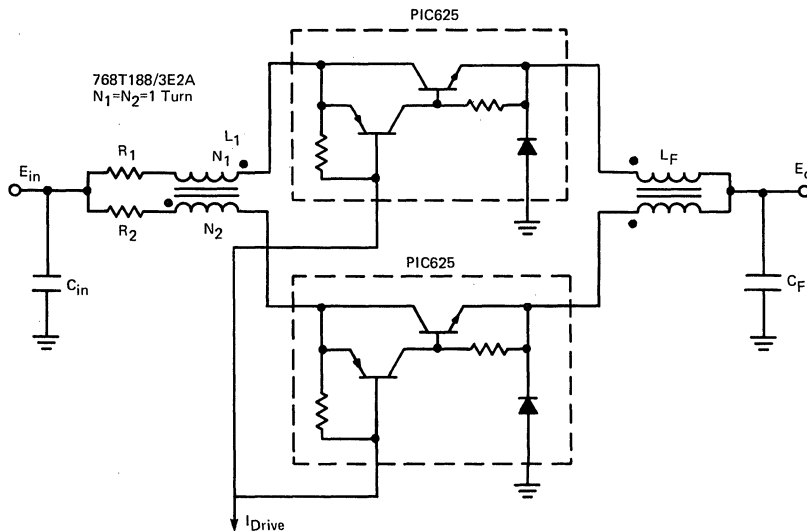
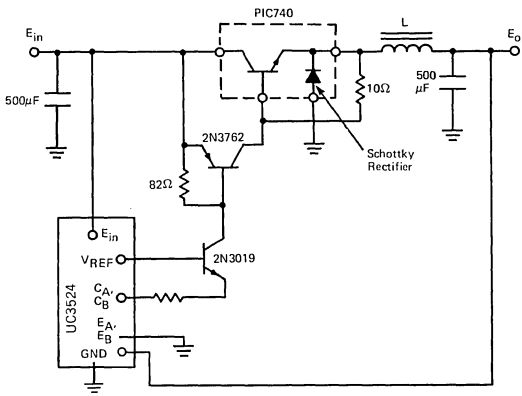

Figure 9. Current Sharing with a Common Mode Choke
Figure 10. Simplified Schematic of 20A Buck Type High Efficiency Switching Regulator
The output current capability of a buck regulator can be extended by (1) paralleling the output devices as shown in Figure 9 and (2) the use of a high current device as shown in Figure 10.
The advantages of paralleling output devices are that it allows the device to operate with a relatively simple drive circuit and provides simplicity of heat sinking. On the other hand, proper current sharing during the on-time period and turn-off time is required. The circuit shown in Figure 9 provides the circuit technique to do just that. The only drawback is that it requires a dead-band period which must be greater than $0.1L$, where L is the inductance value of the common mode choke L_1 .